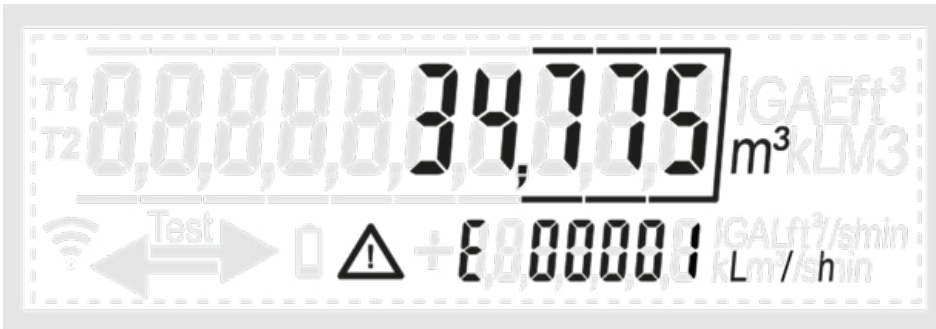

Fig. 20: Empty pipe warning appears during installation of the meter
6. If an error occurred: Warning symbol and error code starting with the letter "E" in the lower number field (min. 1 s). Error codes are described in chapter 13. An example of the error message for an empty pipe is shown in Fig. 20.